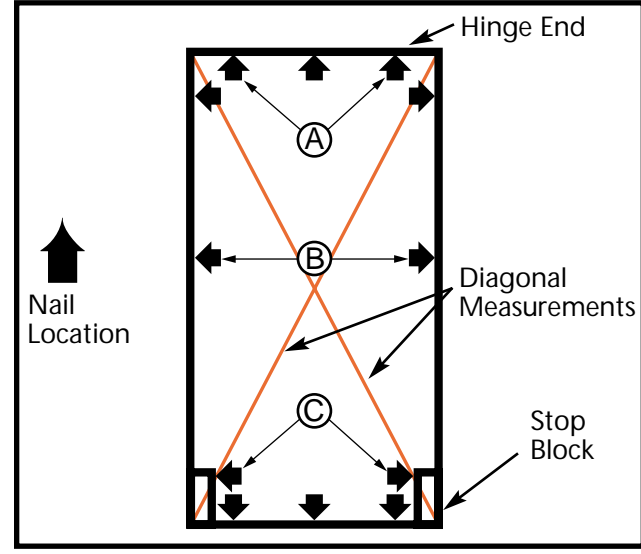

Figure 22
Revise el marco en cuanto a ángulo recto desde arriba midiendo transversalmente las diagonales (Véase la Fig. 22). Las dos mediciones no deben diferir en más de 1/8 pulgadas (3.2mm) para considerarse en ángulo recto.
STEP 5. After predrilling using 1/8" drill bit, nail the hinged end to the header by driving two 16d nails through the hole in each metal bracket on the headboard (location A at Figure 22).
Check the frame for squareness from above by measuring across the diagonals (See Fig. 22). The two measurements should be within 1/8" to be considered square.
STEP 2. Pre drill all nail locations shown with arrows in Figure 22 using a 1/8" drill bit. Do not drill into the joists or headers. Nail the access ladder to the frame following these instructions.
- Drive ten 16d nails, checking squareness and re-shimming as necessary, as shown in Figure 22. Nails at locations marked "B" must go through the hole in each of the metal brackets. Push the ladder up from below until the hole in the bracket is uncovered, then drive the nail through the hole. Locations marked "C" indicate that a nail should be driven through each wooden "stop block".